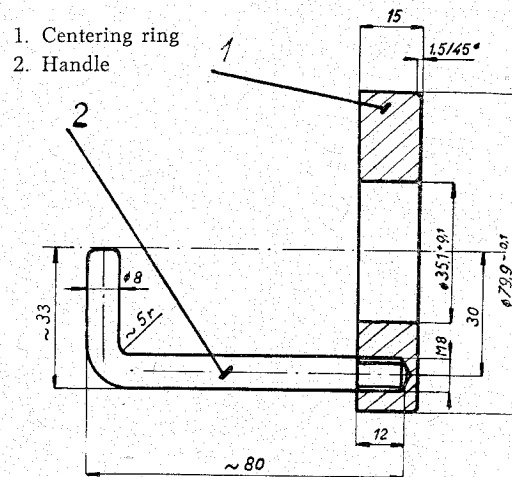

Fig. 59.
7. Install the fixture shown in Fig. 56 between the ball bearing and the reduction sliding gear, fit to the rear end of the counter shaft the hollow drift as shown in Fig. 57, and place the fixture shown in Fig. 59 for centering the counter shaft during the press-fitting of the ball bearing into the aperture taking the counter shaft cap. Tapping the hollow drift with a mallet, press-fit the ball bearing Part No. 3336.74, into the centre partition.